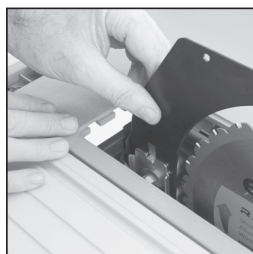

FIG. 3
- Slide the Riving Knife (it is slotted for convenience) between the fixing plate and mounting block. (**Fig. 3**) Ensure that the mounting blocks projecting lugs engage with the slot in the Riving Knife.